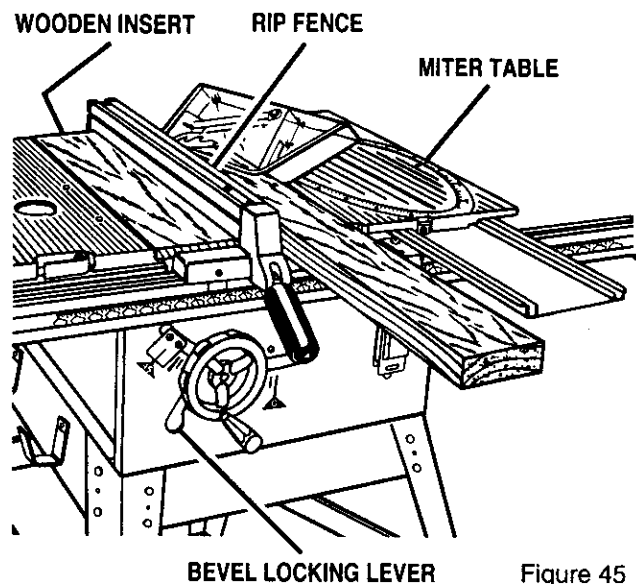

Figure 45
See Figure 45.
- Place the wooden insert between the accessory table and the saw table to support the workpiece. See Figure 45. Secure the wooden insert with screws as noted. Adjust the accessory table firmly against the wooden insert and lock securely. **Note:** The wooden insert should be attached with wood screws from the bottom, through the two holes provided in the casting. Securely trap the wooden insert between the accessory table and the saw table.